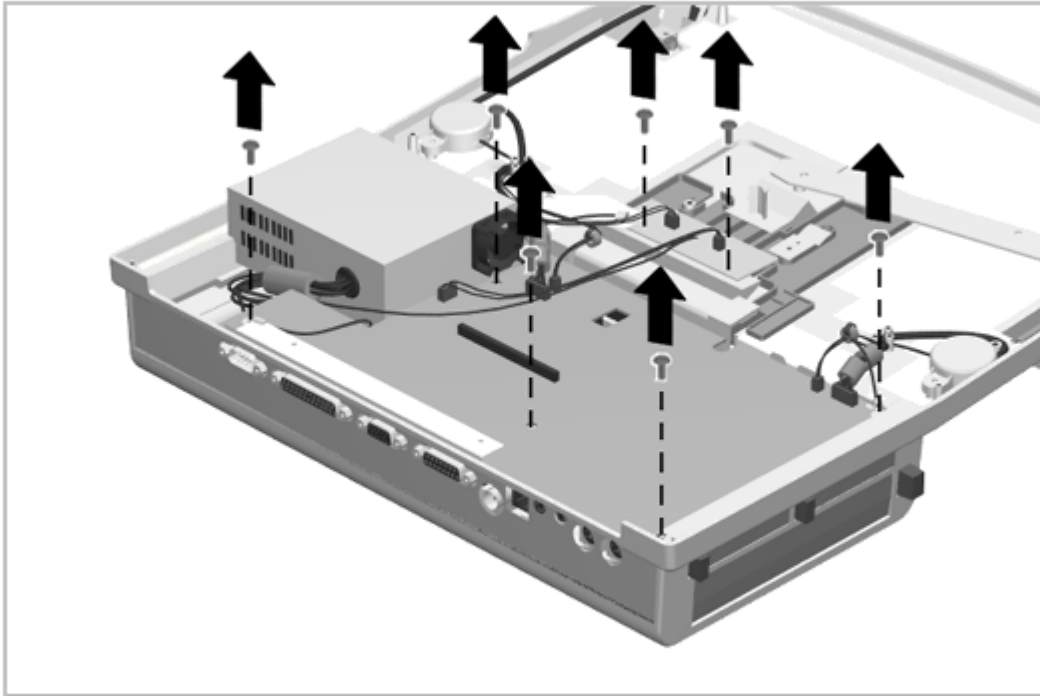

Figure 6-17. Removing the Main Board Screws
6. Remove the remaining three screws from the main board and the two screws from the CPU connector bezel (Figure 6-17).